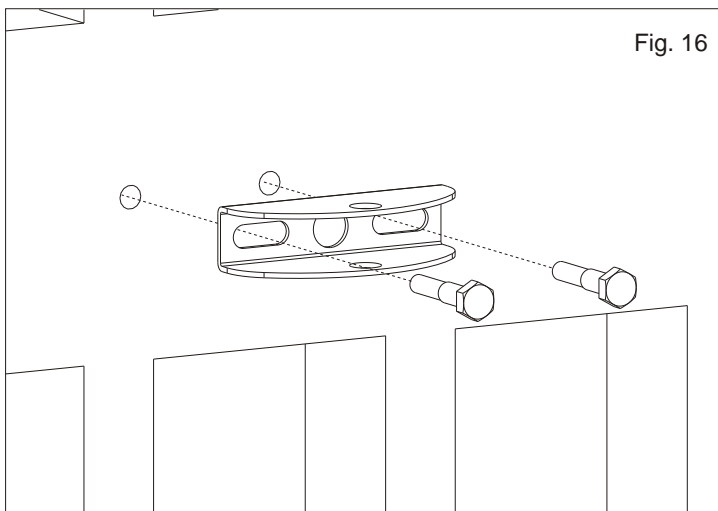

Fig. 16
- Perforate the leaf and fix the front bracket with the screws (Fig. 16)